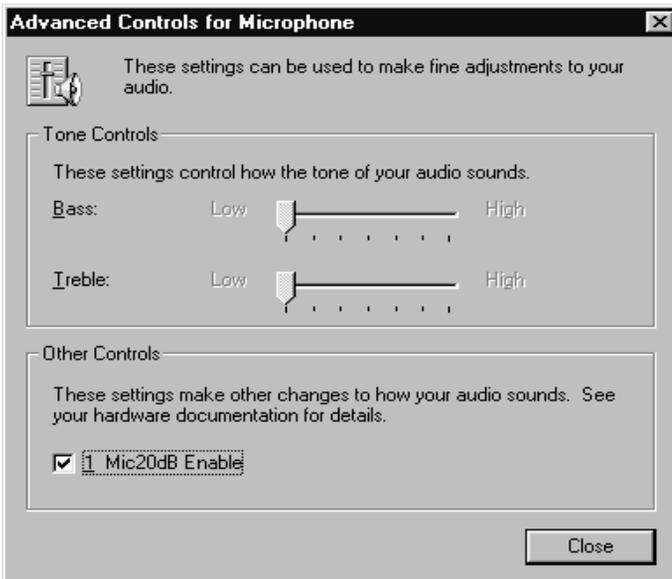

Figure 3-3. The Advance Controls for Microphone Windows.
- 5) The Advanced Control for Microphone window will now appear as shown in Figure 3-3 below. Adjust the Bass and Treble as desired by dragging the slide-bar horizontally. If you wish to enable the Mic 20dB setting for your microphone, then click on **Mic 20dB Enable**.